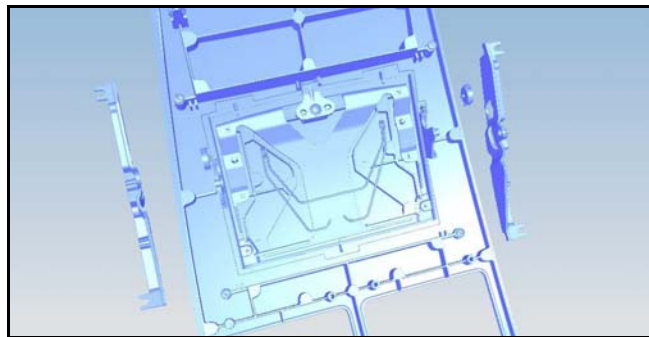

Figure 7
9. Install the new left and right side brackets onto the panel and torque the screws to 3 Nm (refer to Figure 7).